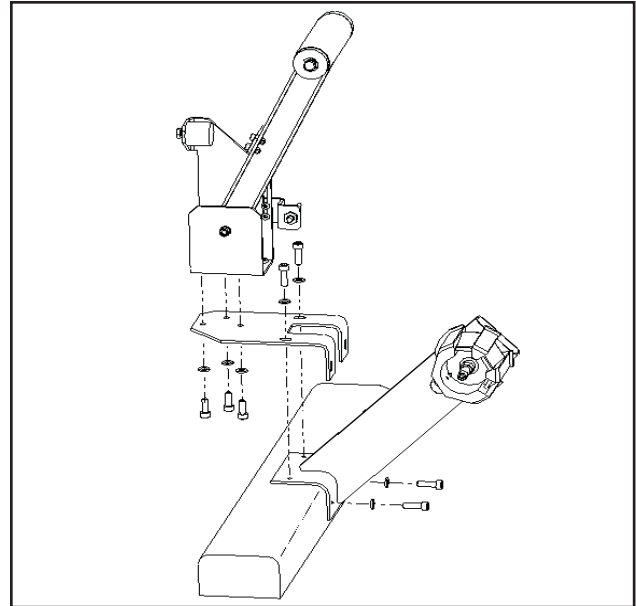

Figure 2-14
- 4) Place the dancer arm assembly over the tape drum bracket as shown in **Figures 2-14 & 2-15** and attach the entire assembly using the longer (4) M6 screws and washers supplied in this kit.